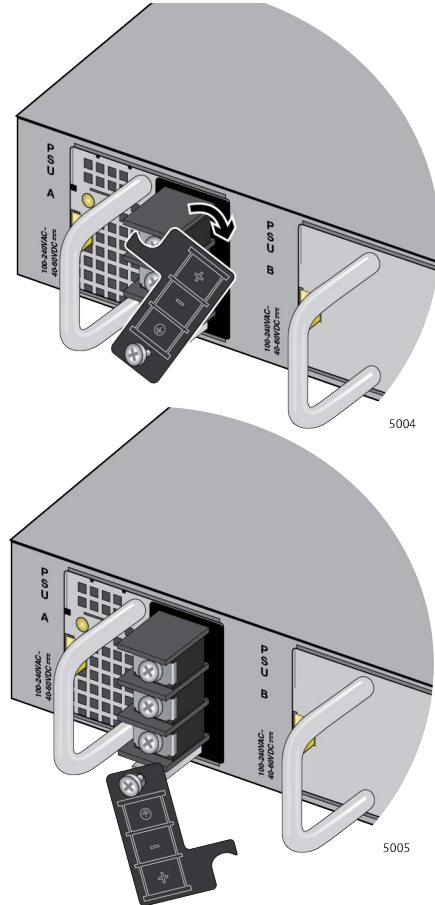

Figure 65. Accessing the Connectors
3. Press the panel to the right to expose the connectors as shown in Figure 65 on page 133.
1. Strip 6.5mm (0.25 in.) of insulation from the end of the stranded power wires with a wire insulator stripper. Refer to Figure 65.